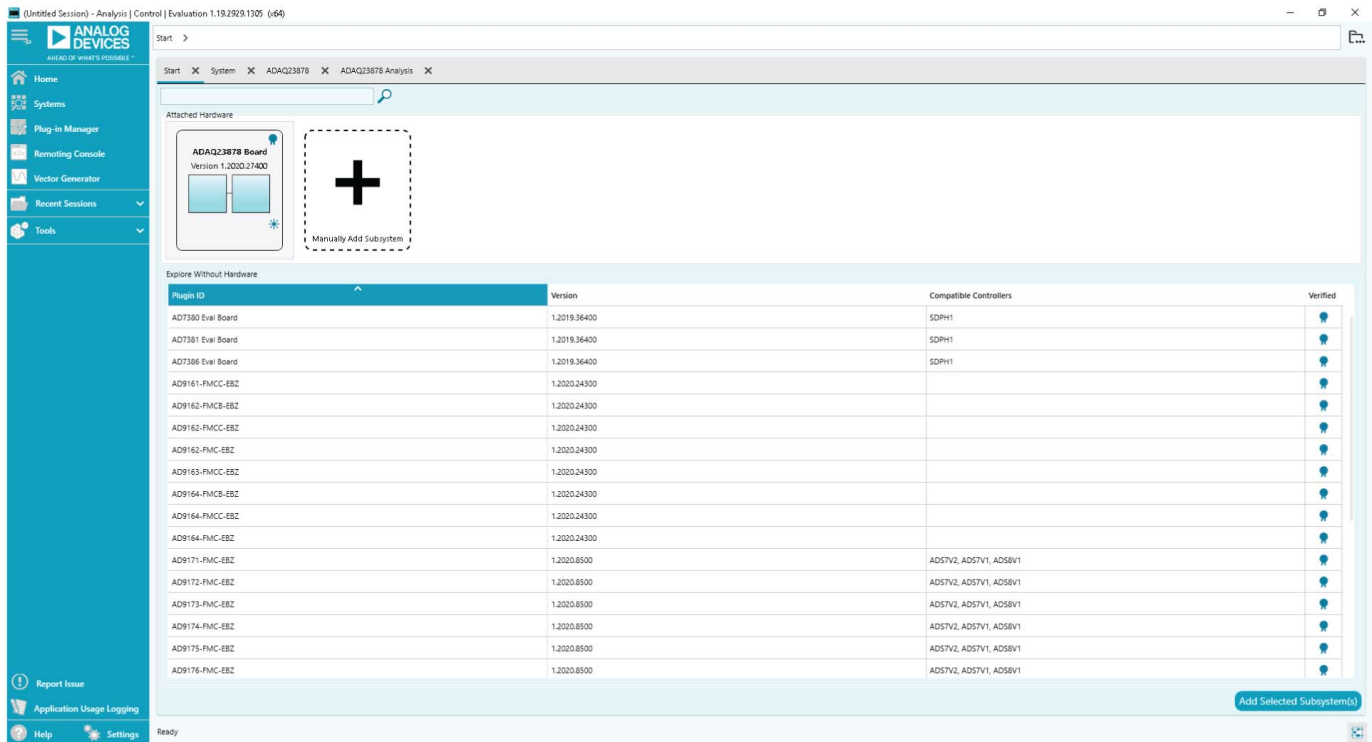
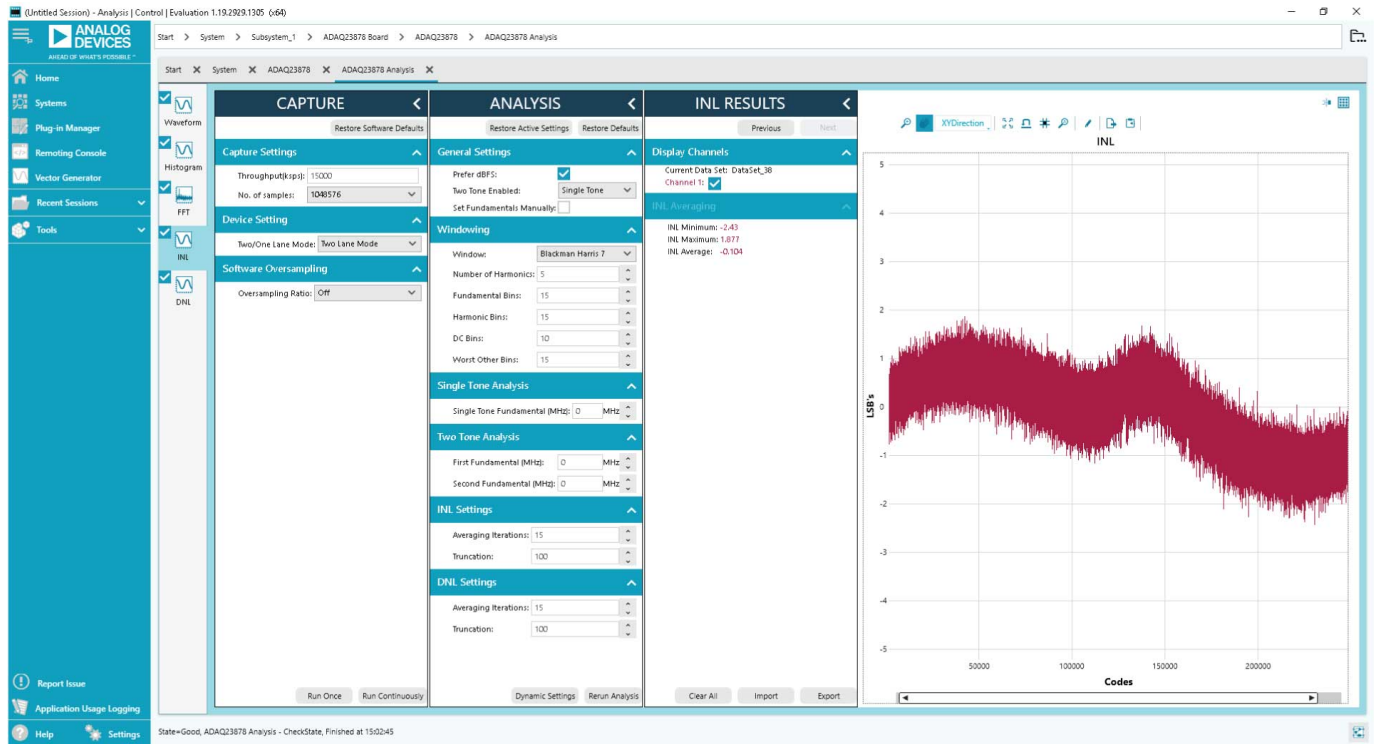
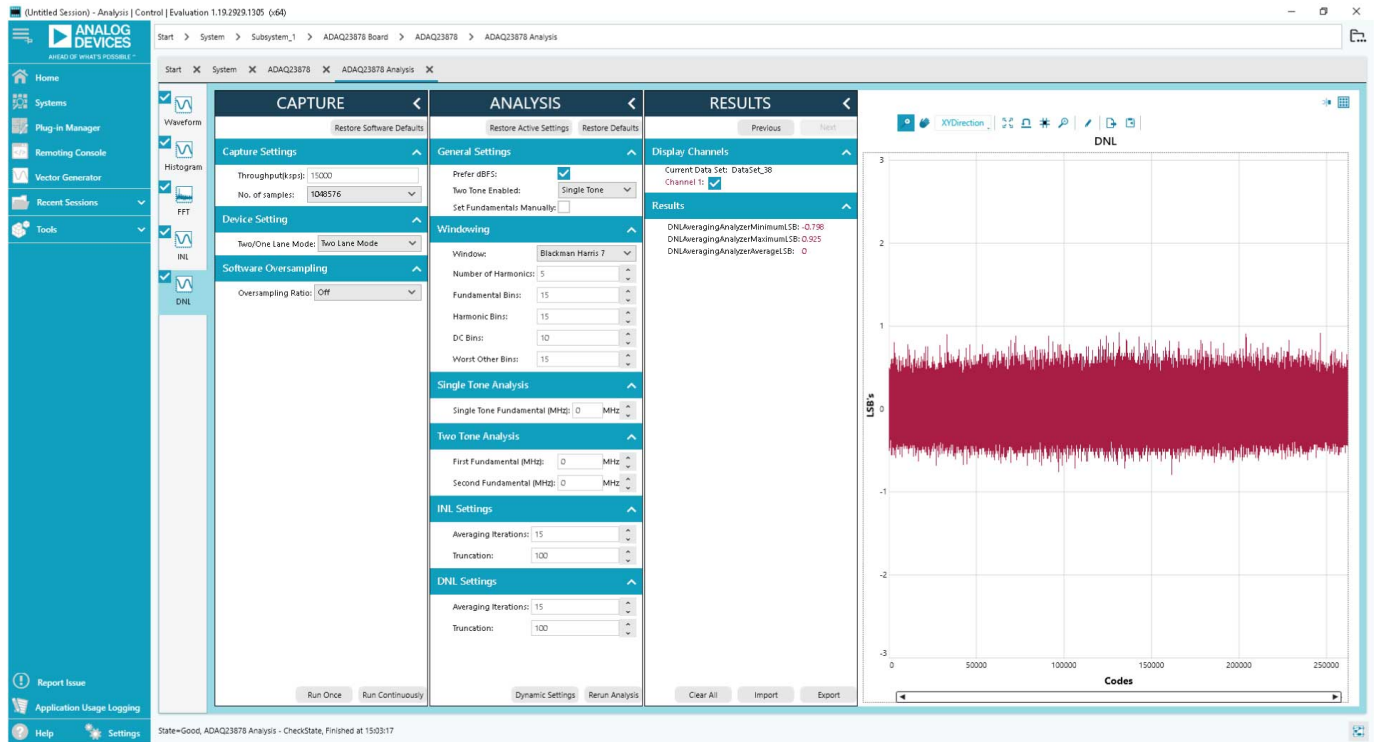

Figure 15. ACE Software Main Window
Figure 22. INL Tab
Figure 23. DNL Tab
1. From the **Start** menu, select **All Programs > Analog Devices > ACE > ACE.exe** to open the ACE software main shown in Figure 15. The **ADAQ23876 Board** or **ADAQ23878 Board** icon appears in the **Attached Hardware** section, depending on which evaluation board is connected. Note that Figure 15 through Figure 23 show the ACE software with the EVAL-ADAQ23878FMCZ connected.
To perform a linearity test, apply a sinusoidal signal with 0.5 dB above full scale to the EVAL-ADAQ23876FMCZ or EVAL-ADAQ23878FMCZ at the VIN+ and VIN- SMA inputs. Set the number of hits per code and adjust to the desired accuracy. Using a large number of hits per code results in a significant test time. Figure 22 and Figure 23 display captured data that includes the  $\pm$ INL and  $\pm$ DNL positions.